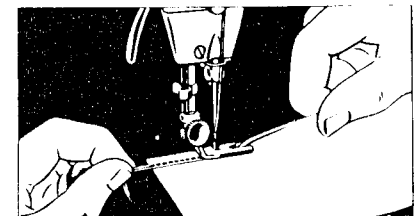

Fig. 25. Hemming Edge of Material and Pulling Back Threads While Sewing
4. Lower the hemmer and begin to sew, slightly pulling threads back while sewing. **Keep mouth of hemmer full to produce a smooth, even hem, as shown in Fig. 25.**